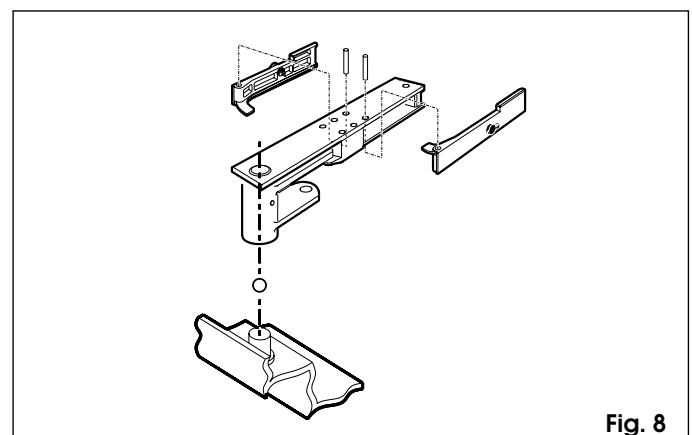

Fig. 8
- 1) Assemble the release levers on the support bracket, and fit the latter on the pivot in the foundation box, also inserting the ball supplied (fig. 8).